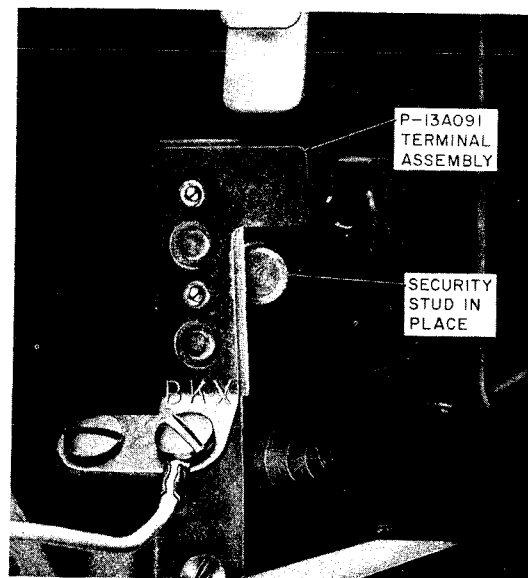
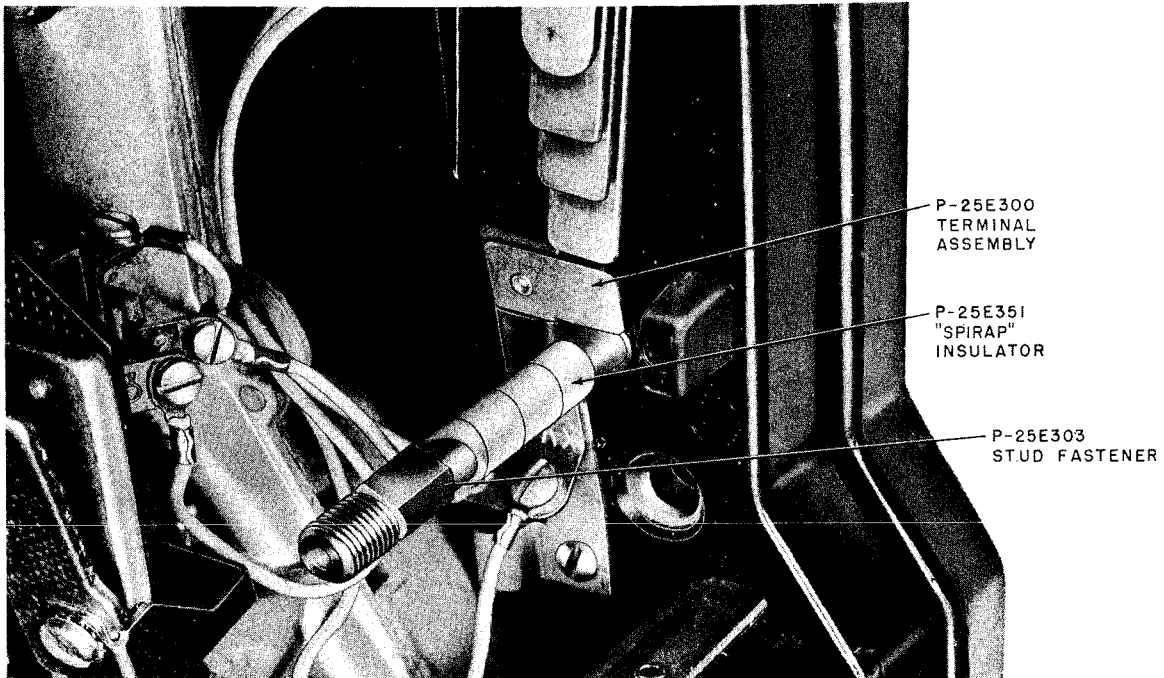

Fig. 16—P-13A091 Terminal Assembly with Security Stud Installed
Fig. 17—New Terminal Assembly, Insulator, and Stud Fastener
**3.14** The P-13A091 BKX terminal assembly (Fig. 16) must be replaced with a P-25E300 terminal assembly to provide clearance for fasteners (Fig. 17 and 18).
- If a security stud is present in the lower right security stud hole (Fig. 16), the appropriate bolt fastener (3.15) may be used after removing the security stud.
**3.20** Use the P-25E303 stud fastener (Fig. 17) where maximum security is *not* essential, but where protection is desired against unauthorized use of the 10-type upper housing key.
**3.22** Use a P-25E351 "SPIRAP" insulator on either the bolt or stud fastener (Fig. 17 and 18). The purpose of the "SPIRAP" is to eliminate the possibility of the fastener grounding the lower lug of the housing contacts. To install, start at the BKX terminal and wind the "SPIRAP" in "barber pole fashion" around the stud or bolt. Do not allow the "SPIRAP" to cover any of the threads on the exposed end of the stud or bolt. Redress the wiring to the upper housing contacts (Fig. 21).